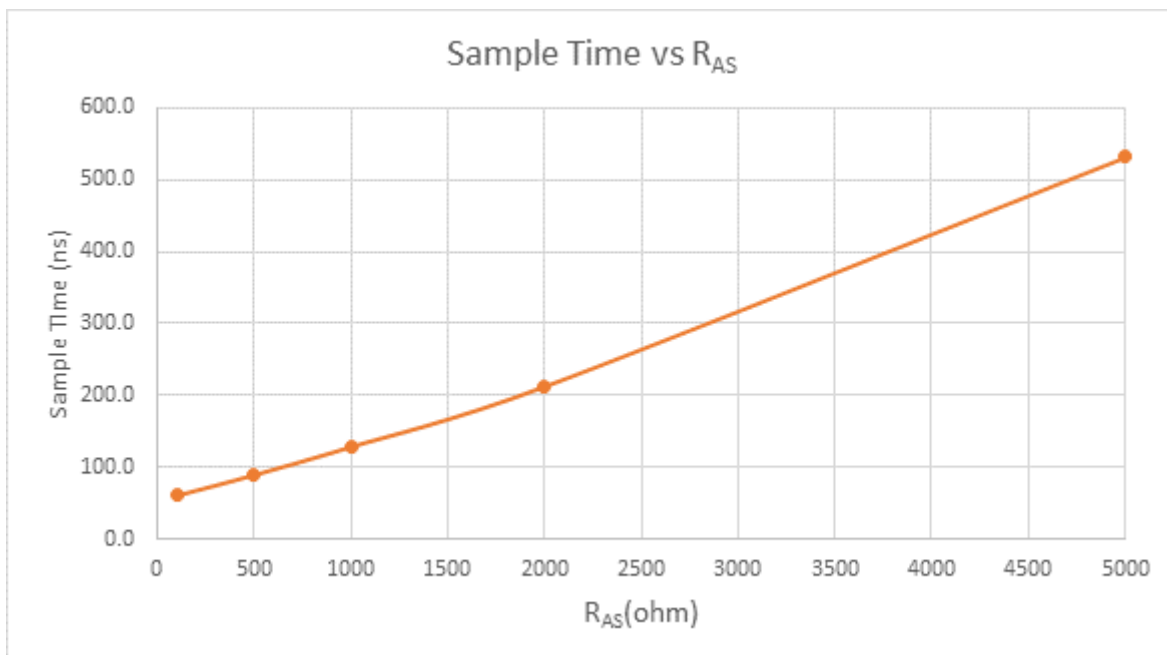

Figure 35. Sample time VS. R_{AS}
⁴ See Figure 35, "Sample time VS. RAS".
- 4 See Figure 35, "Sample time VS. R_{AS}".